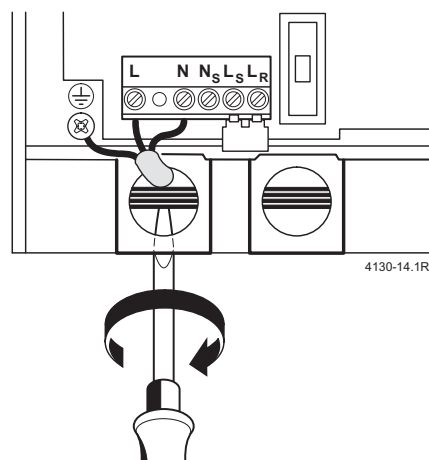

Fig. 26
- ▶ Feed cable through cable grommet and connect the mains supply cable, see fig. 26.